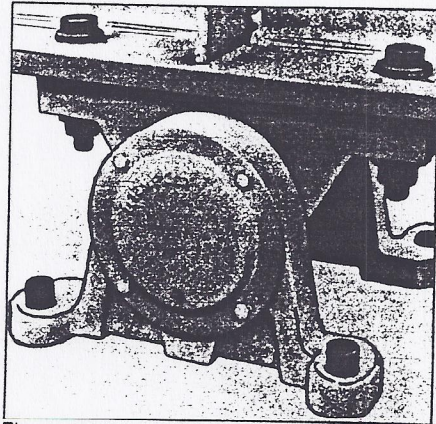

Figure 18
- b. Align bolt holes of center bearing housing and top plate of samson post and hammer roll pins firmly into top plate of samson post. See illustration in Figure 18.